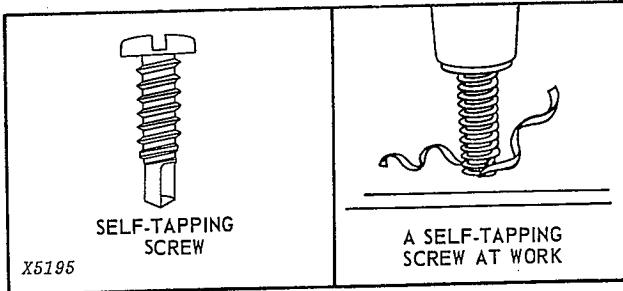

Fig. 141 — Self-Drilling Tapping Screws
**Self-Drilling Tapping Screws.** An interesting variation of tapping screws is one that has a special point to *drill* its own hole, thus eliminating drilling or punching (Fig. 141). Since these screws must usually be installed with a power tool, you may not encounter them very often.